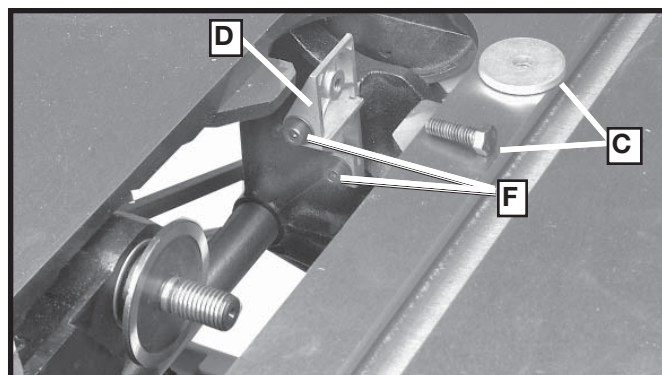

Fig. 46
5. If alignment is necessary, loosen the two screws (F) Fig. 46, align bracket (D) with the arbor flange and tighten screws (F).
6. Loosely assemble large washer and screw (C) Fig. 46 to the inside splitter bracket. This screw and washer was removed in **STEP 3**.